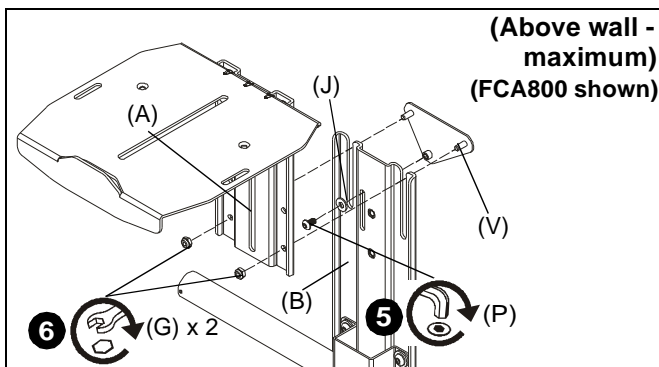

Figure 18
5. (For **maximum extension**) Use #10-32 x 3/8" button head cap screw (P) and small washer (J) to secure adapter plate (V) to main bracket (B). (See Figure 18)
6. (For **maximum extension**) Use two #10-24 lock nuts (G) to secure upright bracket (A) to main bracket (B) and adapter plate (V). (See Figure 18)